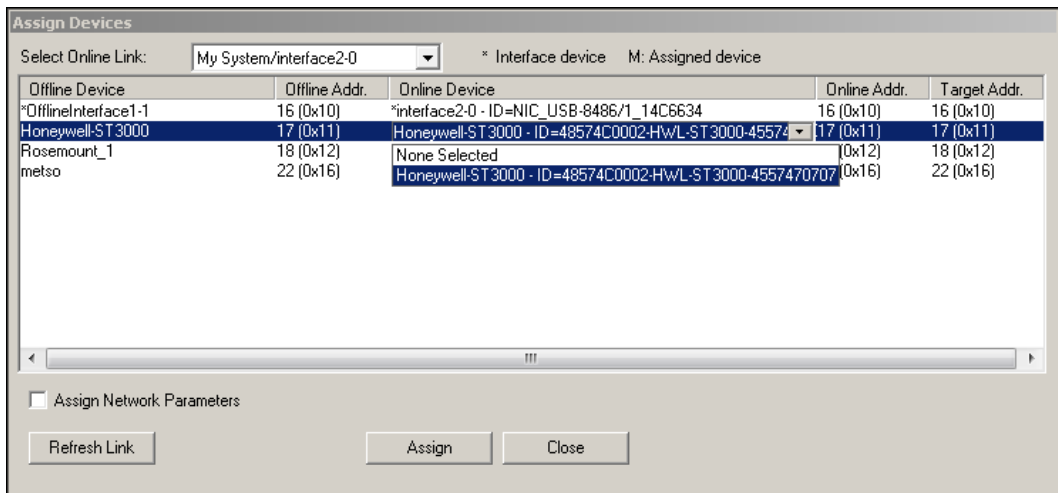

Figure 2-2. The Assign Devices Box
1. Select an offline link and click the **Take Online** button on the toolbar, or right click the offline link and select **Take Online**. The **Assign Devices** dialog box appears as shown in Figure 2-2.